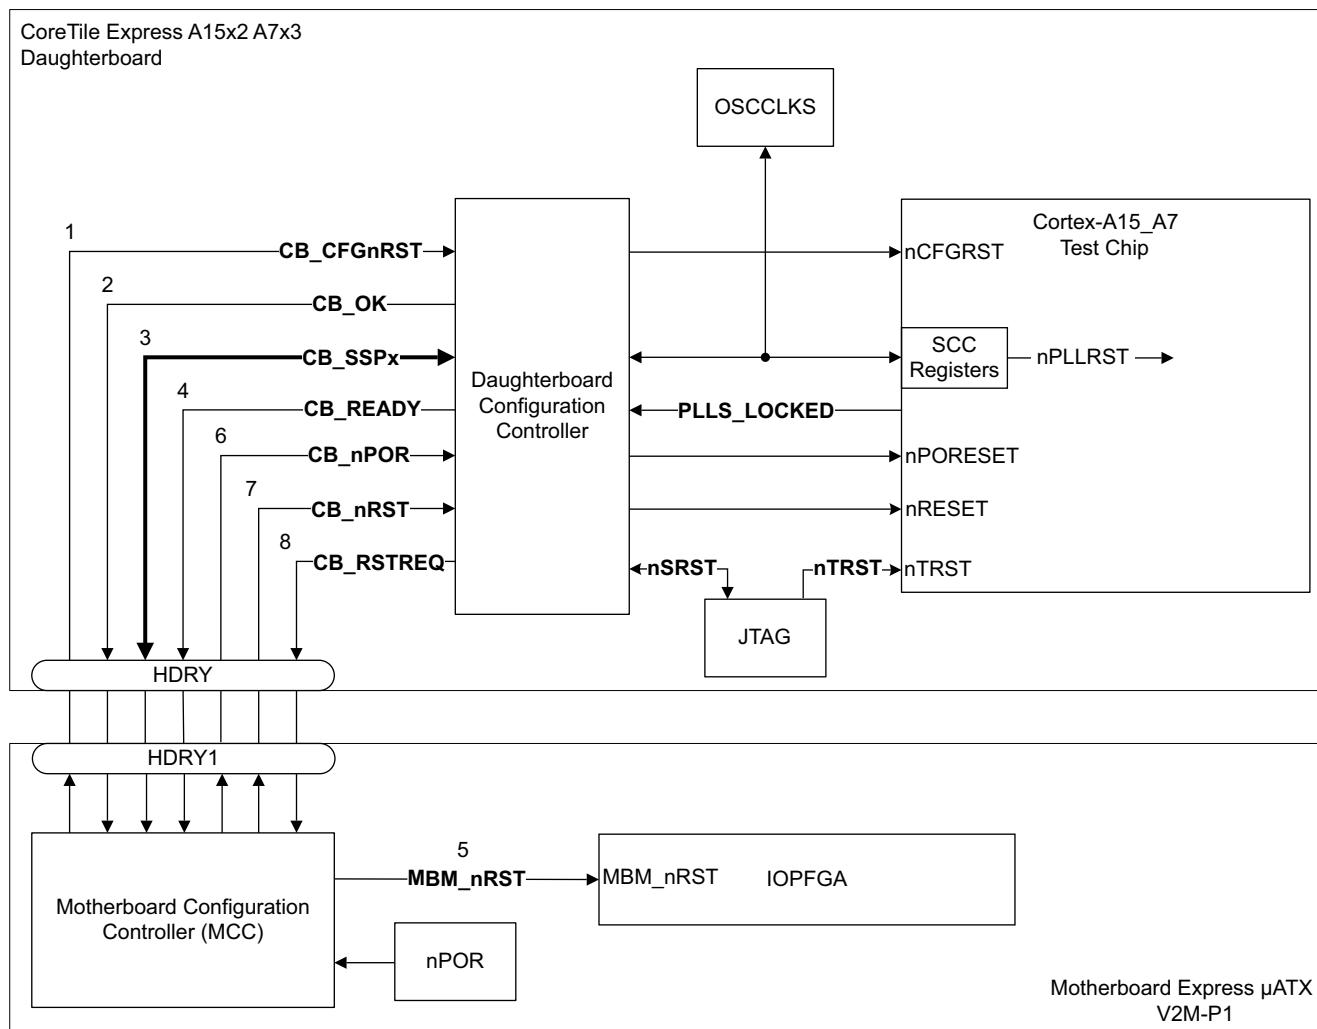
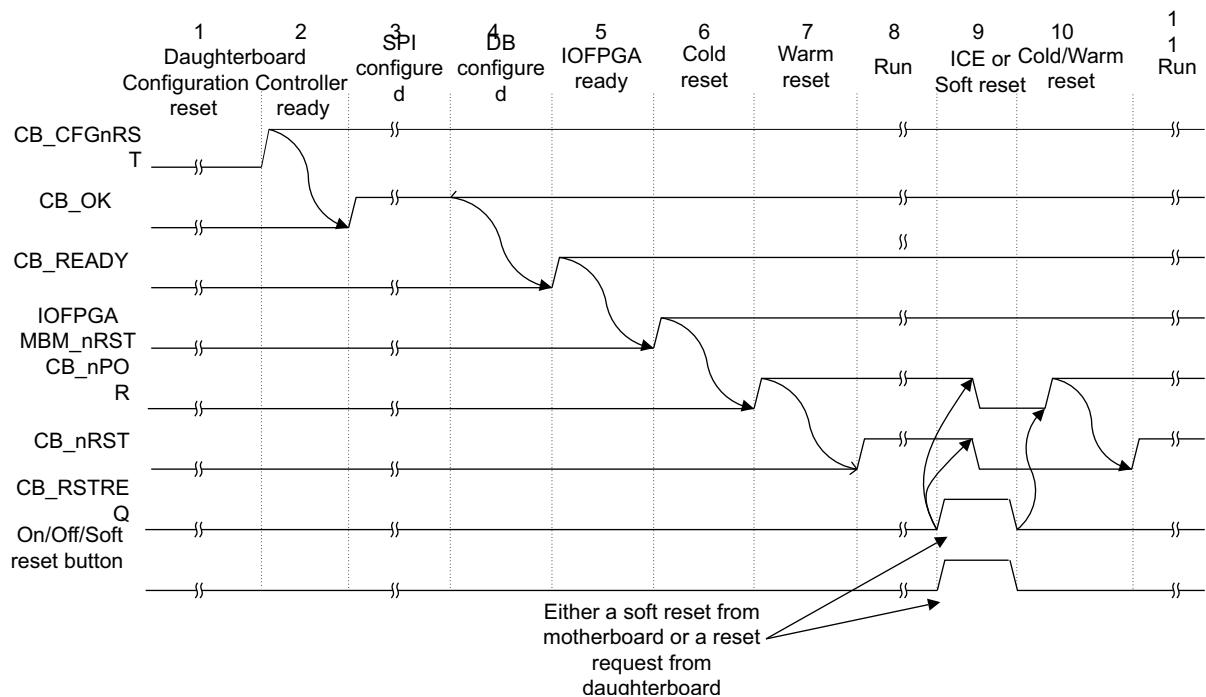

Figure 2-6 CoreTile Express A15×2 A7×3 daughterboard resets
Figure 2-7 CoreTile Express A15x2 A7x3 daughterboard configuration and reset timing cycle
Figure 2-6 on page 2-14 shows an overview of the daughterboard reset signals and includes configuration signals.
The numbers in Figure 2-6 represent stages in the reset and configuration process. See Figure 2-7 on page 2-15.
Figure 2-7 on page 2-15 shows the CoreTile Express A15×2 daughterboard power-up configuration and reset timing cycle.
a. Figure 2-7 on page 2-15 does not include these signals.